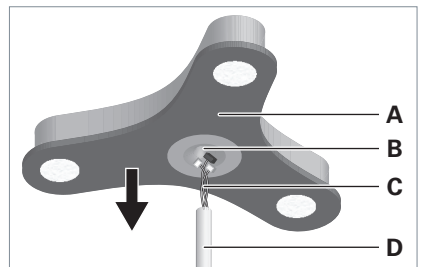

Fig. 6: Inserting the light head.
- ▶ Place the light head **A** on the column **D** while passing the cables **C** through the opening **B** in the light head, see Fig. 6.